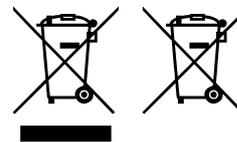

Fig.1 Fig.2
4. the symbol (crossed-out wheeled bin, see Figure 1), is shown on the product or on the packaging, indicates that the equipment must be disposed of separately at end-of-life;